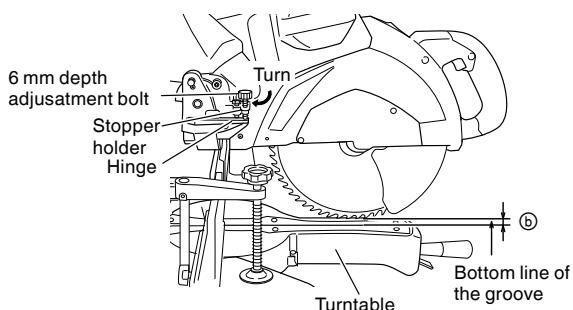

Fig. 48
- (1) Turn the stopper holder on the direction shown in Fig. 48.